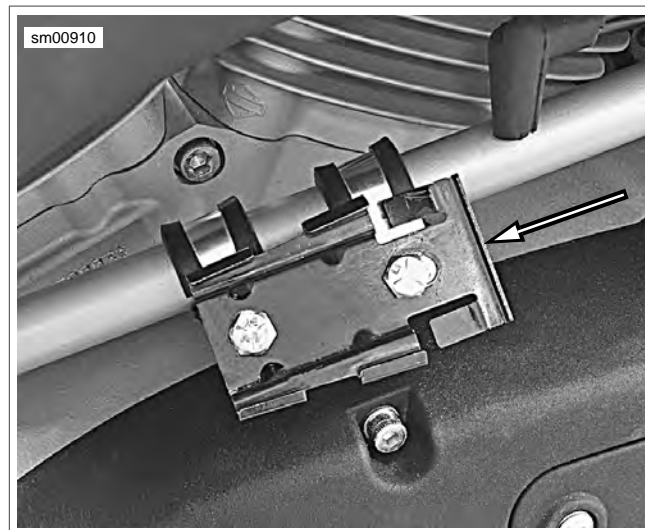

Figure 4-58. Canister Mounting Bracket
1. See Figure 4-58. Label and disconnect the fuel tank vent hose (2) and canister vent hose (3) from the canister.
- See Figure 4-58. Slide canister into position on canister mounting plate and push towards front of vehicle.